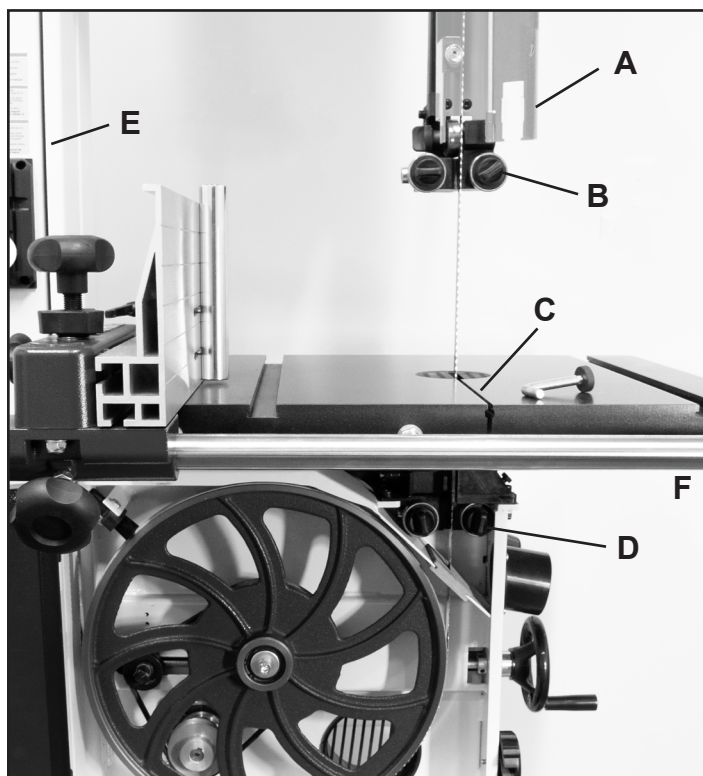

FIGURE 21
3. Open the Guide Hinged Door (#2E) on the blade guard. Fig. 21, A.
4. Remove the saw blade from the top wheel then feed it through the upper blade guides (B), slot in the table (C), lower blade guides & lower blade guard (D), out of the slot in the column of the machine (E), off of the bottom wheel, and then around the front rail (F).